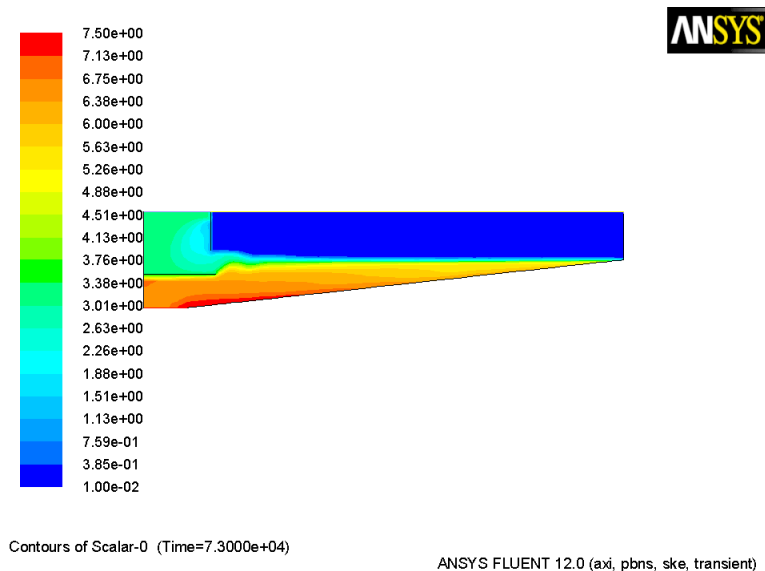

Figure 2: Contours of Particle Concentration
1. Display contours of particle concentration, User Scalar 0 (Figure 2).